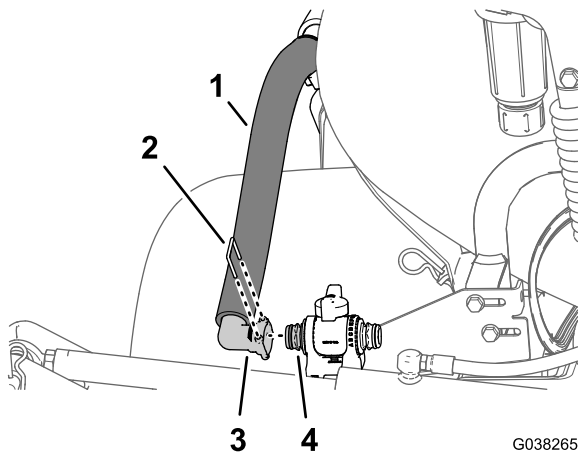

Figure 63
3. Assemble the 90° quick-connect fitting of the agitation-nozzle assembly onto the quick coupling of the agitation throttle valve with the retainer that is supplied with the agitation-hose assembly (Figure 63).